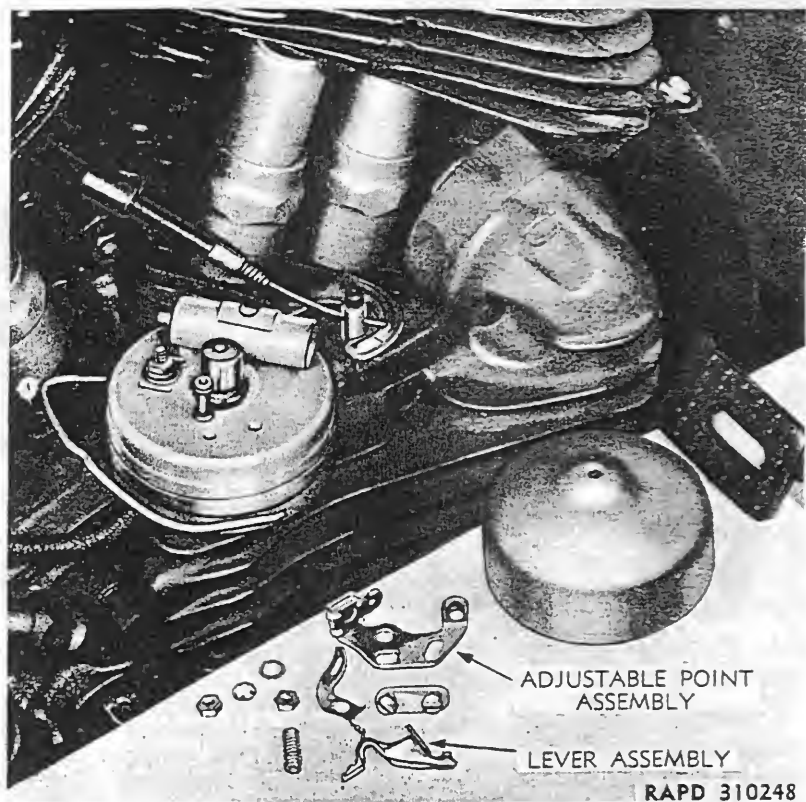

Figure 49—Circuit Breaker Points Removed
84. CIRCUIT BREAKER POINTS (fig. 49).